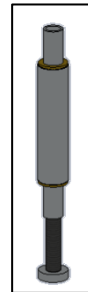

FIG. 5 - BOTTOM
3. BOTTOM STEM ASSEMBLY (Pre-assembled as shown in FIG. 5)